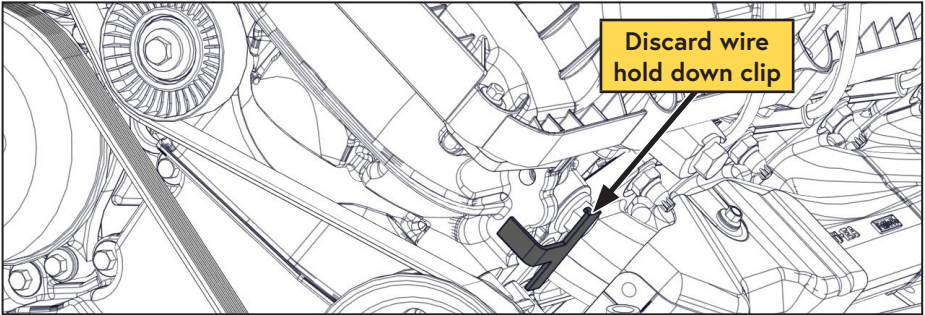

Figure 17 — Discard wire hold down clip
- ☐ Remove the OEM wire hold down clip (located just above the power steering pump) from the harness and discard. Secure the harness to the rear of the mounting boss using the supplied barbed cable tie (Figure 17).